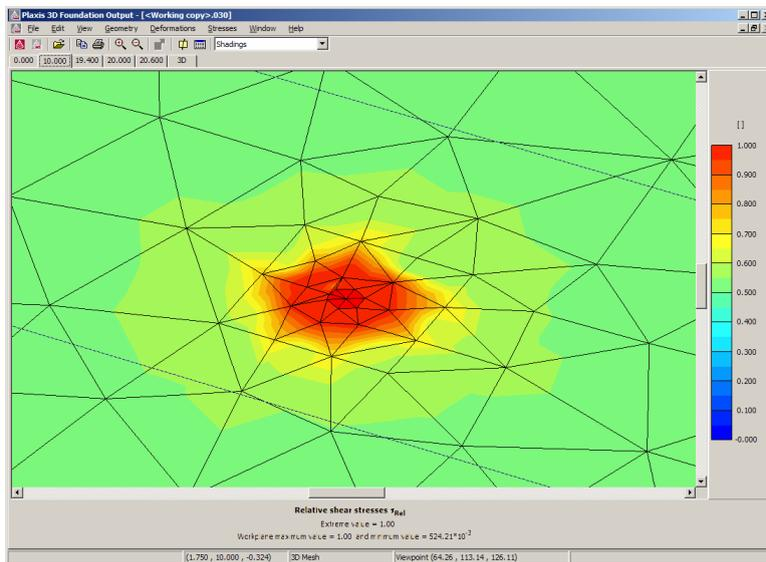

Figure 4.8 Relative shear stresses around the pile tip in work plane  $y = 10.0$
- Select the final calculation phase and click the Output button. The Output program will open and show the deformed mesh at the end of the load test. The stresses and deformations in the work planes can be viewed by clicking on the corresponding tabs and selecting the desired output from the menu. For example select the work plane  $y = 10.0$  to investigate the stresses around the pile tip (see Figure 4.8).